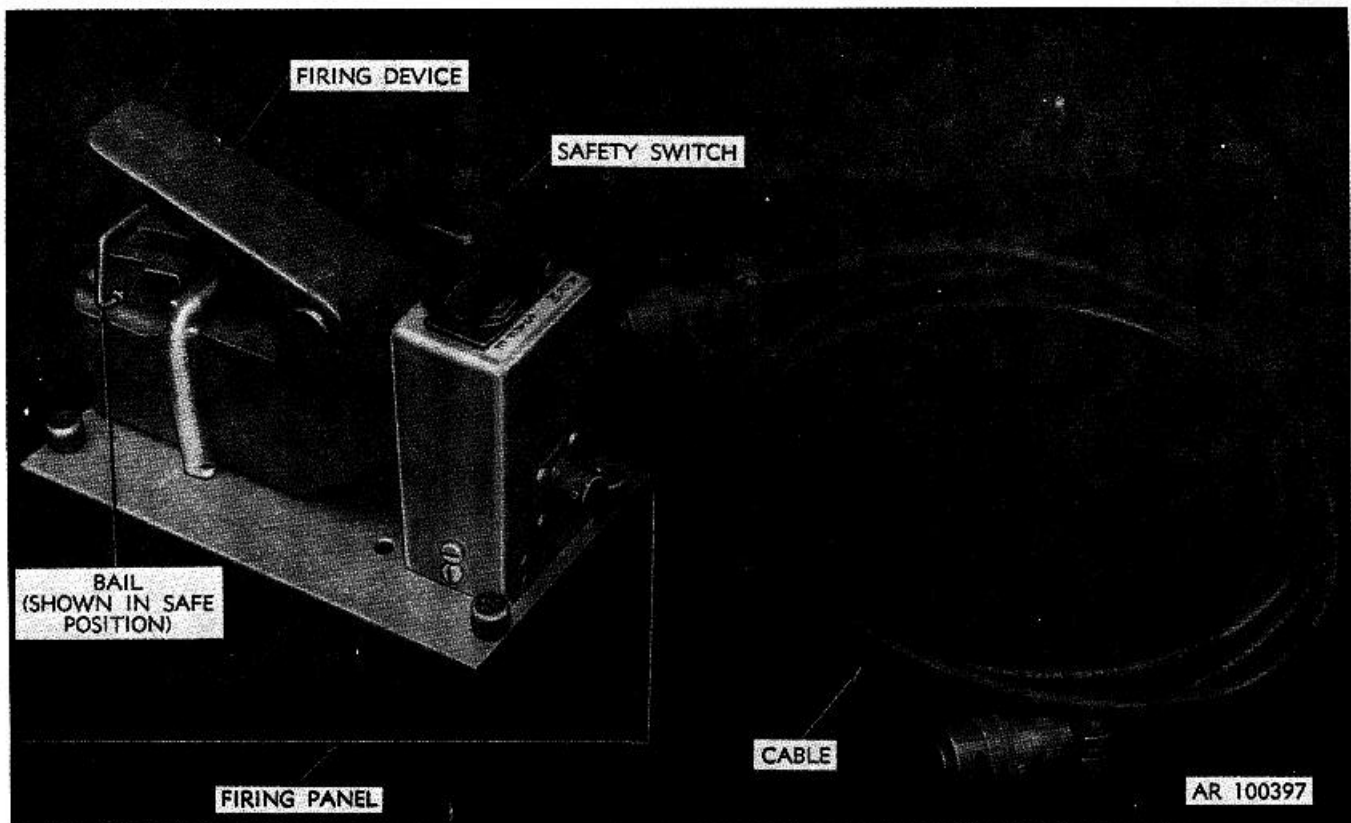

Figure 1-8. Firing panel and cable of flare dispenser XM19.
(4) The firing panel (fig. 1-8) consists of a hand-operated firing device which is mounted on the instrument panel. A safety switch precludes accidental jettison of the dispenser. A bail provides a positive mechanical lock to prevent inadvertent depression of the firing device handle. A cable is provided to connect the firing panel to the nitrogen cylinder.
(5) Test set for XM19 is needed for electrical continuity testing.
(6) Snap-on fittings and nuts are used to attach the track plate to the helicopter floor.